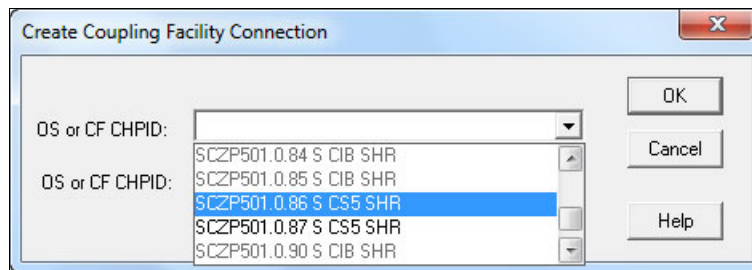

Figure 5-29 HCM - Create Coupling Facility Connection: selecting first CS5 CHPID
18. HCM displays the Create Coupling Facility Connection window (Figure 5-29). From the pull-down, select the first CS5 CHPID that we defined (SCZP501 - 0.86).